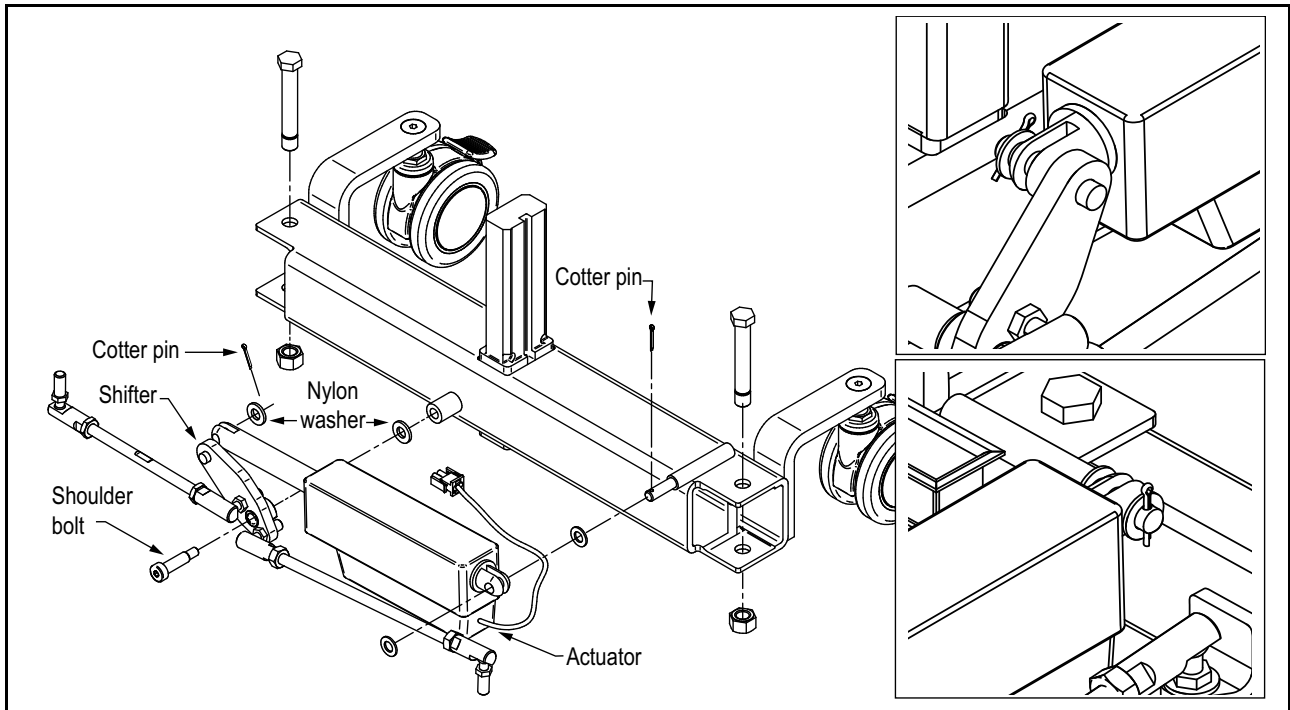

Fig. 16
- 8) Unscrew the shifter plate shoulder bolt. You will need enough clearance to allow removal of the actuator (see Fig. 16).
- 2) Remove the base cover and unscrew the tie rod end from the leg to be replaced and remove from bracket (see Fig. 16). Dispose of the nylon nut.